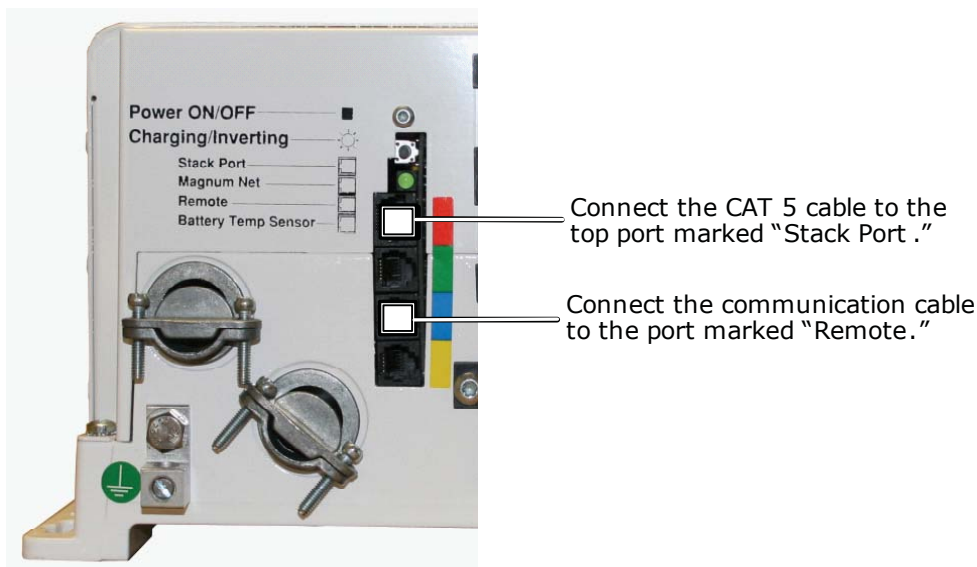

Figure 2-5, Connecting CAT 5 and Communication Cables to the Inverters
1. Connect a CAT 5 cable to the Stack Port on every inverter installed in parallel (see Figure 2-5).
1. Connect a communication cable to the Remote port on every inverter installed in parallel (see Figure 2-5), using the supplied remote cables.